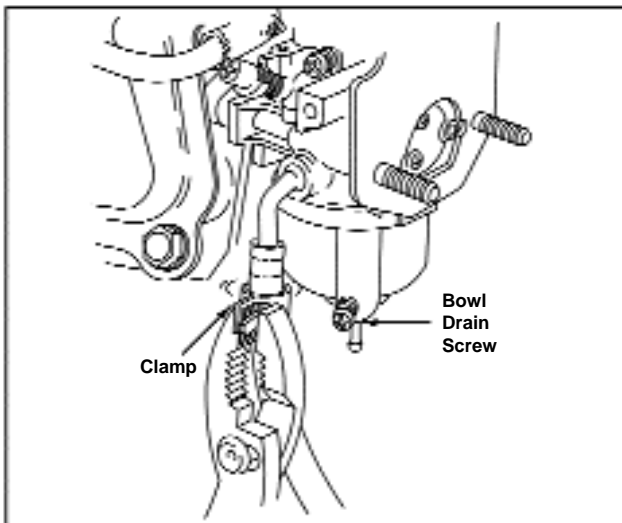

Figure 11 - Removing Fuel Hose and Clamp
2. Move hose clamp down, and remove fuel hose from carburetor inlet. See Figure 11.
3. Open float bowl drain screw, and drain gasoline into an approved container to drain carburetor, Figure 11.